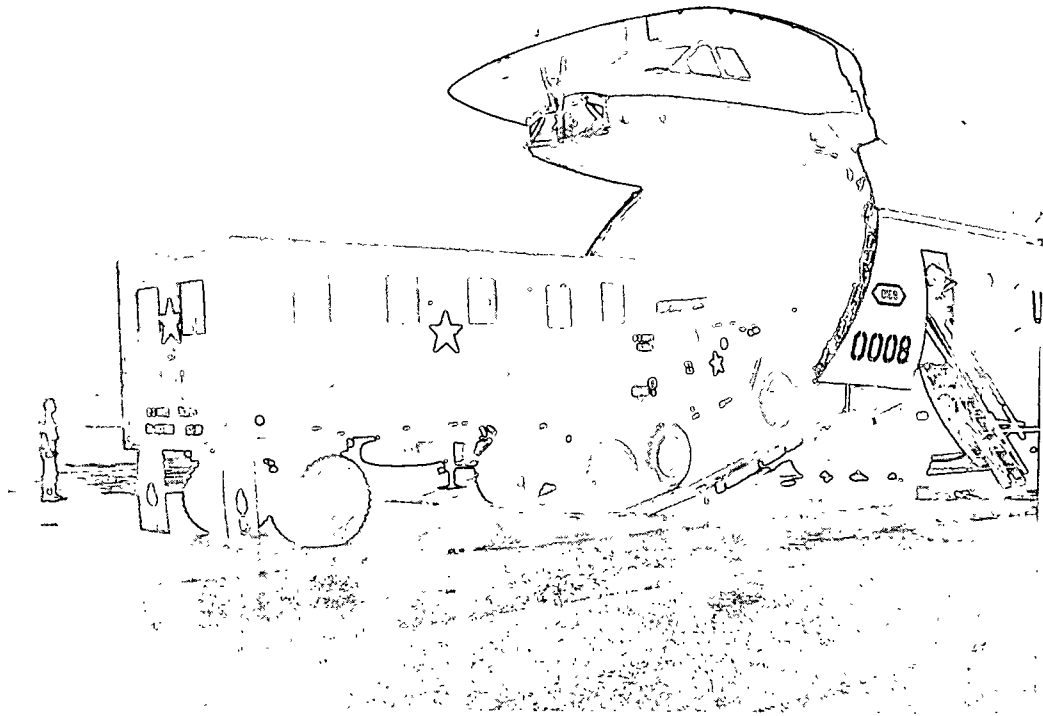

Figure 2-155. Loading the M146 semitrailer over the forward ramp.
a. Drive each vehicle into the cargo compartment over the forward ramp as shown in figures 2-155 through 2-160 and park with each vehicle at station prescribed in the tiedown diagram (fig 2-157).